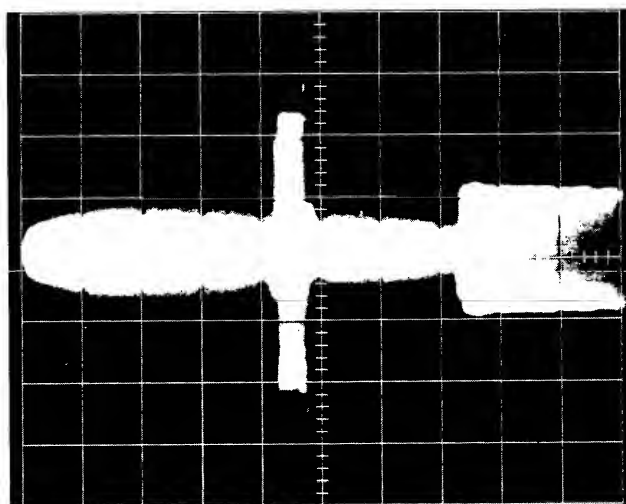

Figure 5-8. Index to Burst Waveform
- h. The oscilloscope presentation should appear as shown in Figure 5-8.